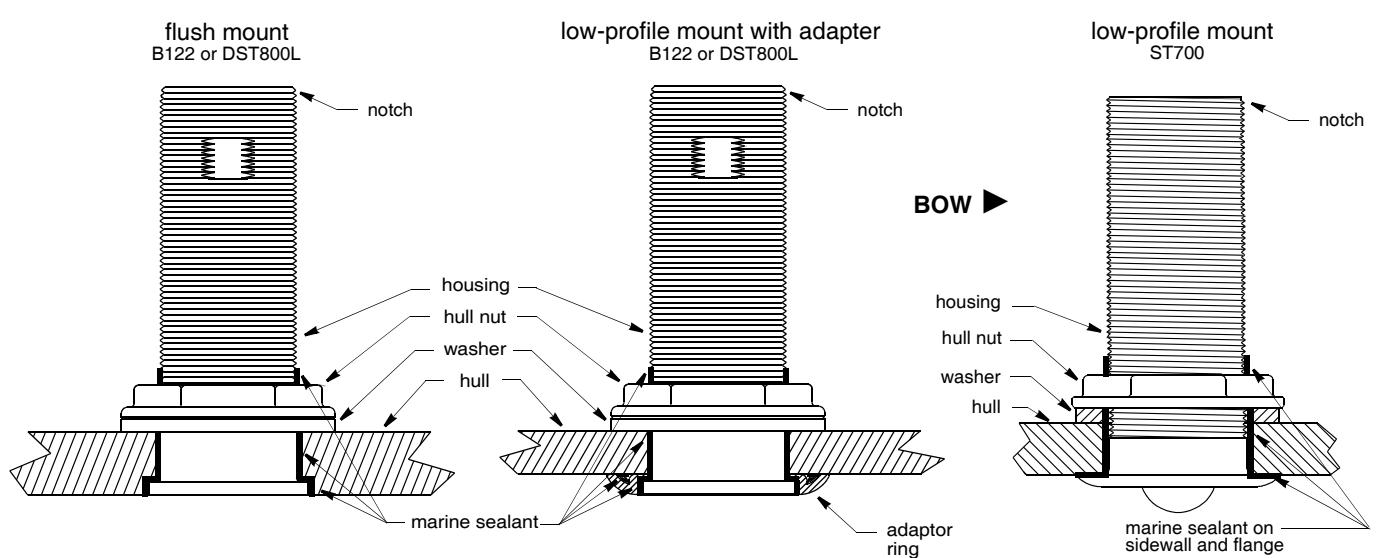

Figure 8. Bedding and installing *without* a fairing
2. Using the appropriate size hole saw, cut a hole perpendicular to the hull from outside the boat (see figure 8).
Apply a 2mm (1/16") thick layer of marine sealant around the flange of the housing that will contact the hull and up the sidewall of the housing (see Figure 8). *The sealant must extend 6mm (1/4") higher than the combined thickness of the hull, washer, the hull nut, and any adaptor ring.* This will ensure there is sealant in the threads to seal the hull and to hold the hull nut securely in place.
1. From outside the hull, push the housing into the mounting hole using a twisting motion to squeeze out excess marine sealant (see Figure 8). *Align the notch in the top of the housing pointing forward toward the bow.*